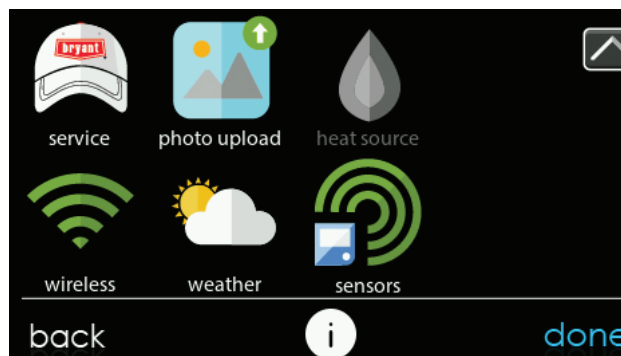
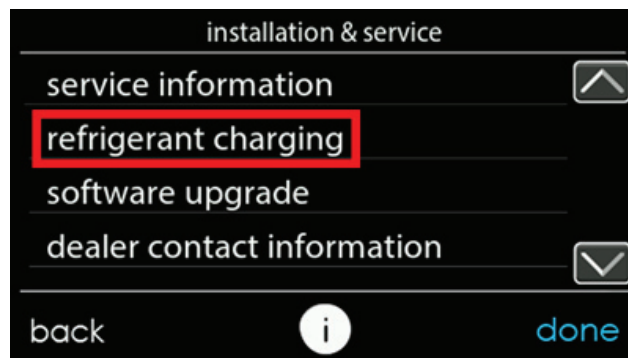
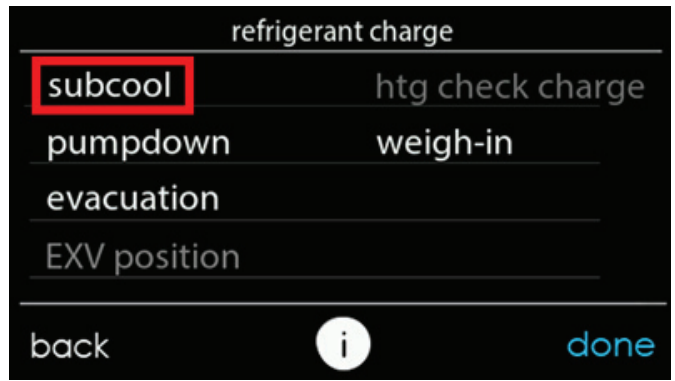

Fig. 10 – Service Icon
Fig. 11 – Select Refrigerant Charging
Fig. 12 – Select Refrigerant Subcooling
4. Navigate to the service area by pressing MENU from main screen (see Fig. 10). Scroll down to service icon and hold until icon turns green. Once in the "Installation and Service" menu, select "Refrigerant Charging" (see Fig. 11).
5. If the outdoor ambient temperature is between 65°F and 105°F and the indoor temperature is between 65°F and 80°F then select "subcool" (See Fig. 12).
2. In the "installation and service" menu of the UI (see Fig. 10), go to "refrigerant charging" and then "pump down" (see Figs. 11 & 12).
2. In the "installation and service" menu of the UI (see Fig. 10), go to "refrigerant charging" and then "evacuation" (see Fig. 11) and Fig. 12).